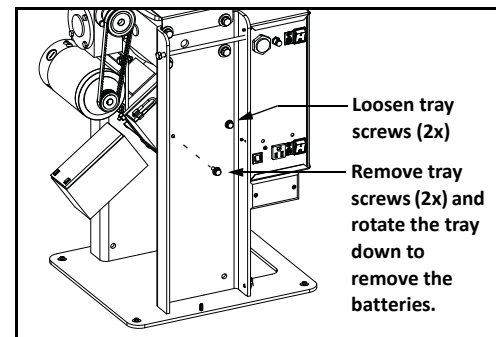

Figure 2-10.
4. To access the 8Ah batteries and disconnect its wires, remove the two screws closest to the motor and loosen the other two screws that secure the support tray as shown in Figure 2-10.